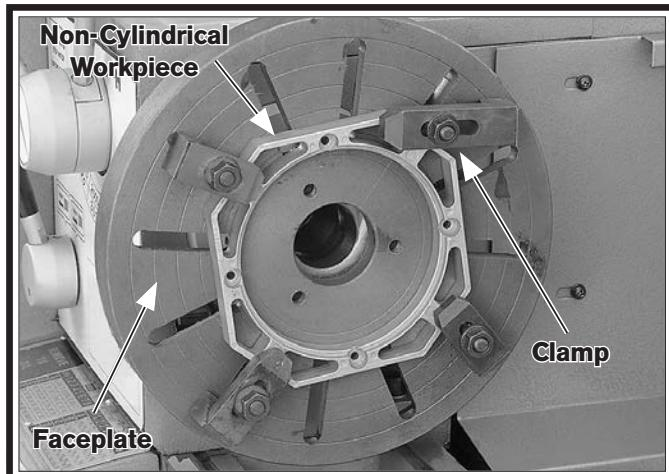

Figure 25. Example photo of workpiece clamped in a faceplate.
- 3. Position the workpiece onto the faceplate and clamp it in place with a minimum of three independent clamping devices (see **Figure 25** for an example).**